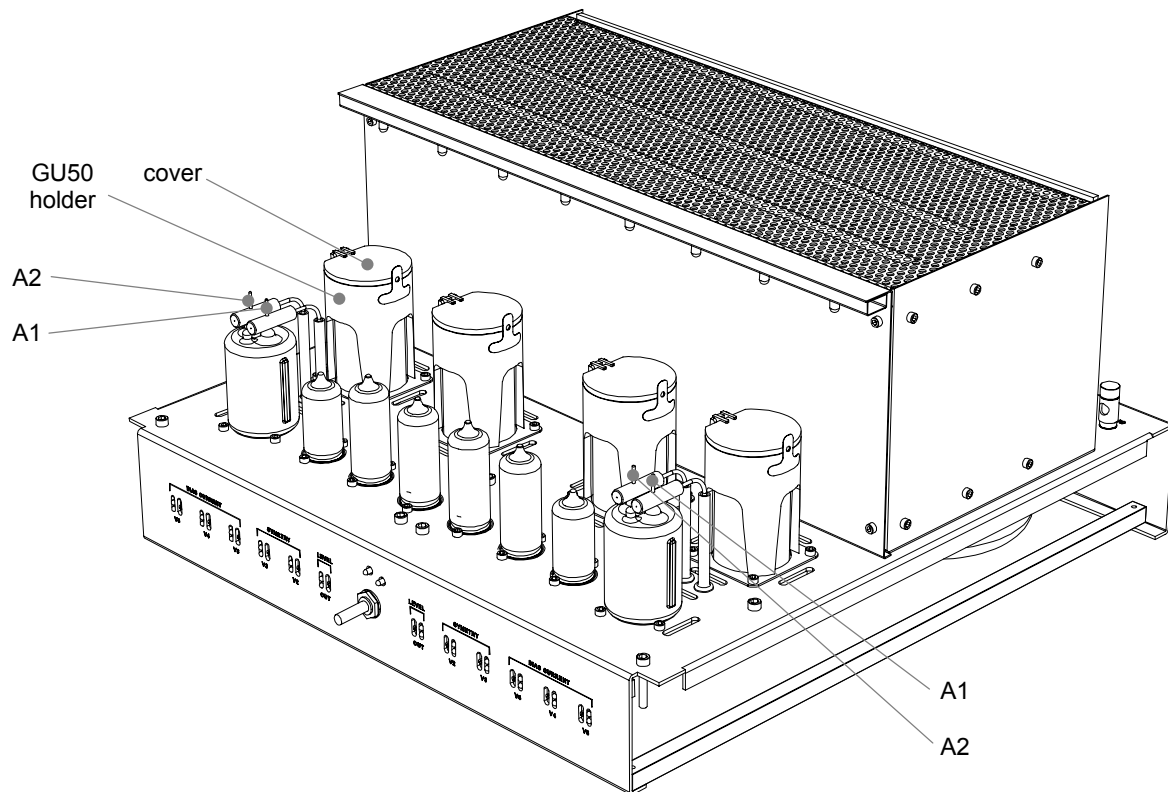

Figure 10
4. Open the cover of tube holder. Refer to figure 10.